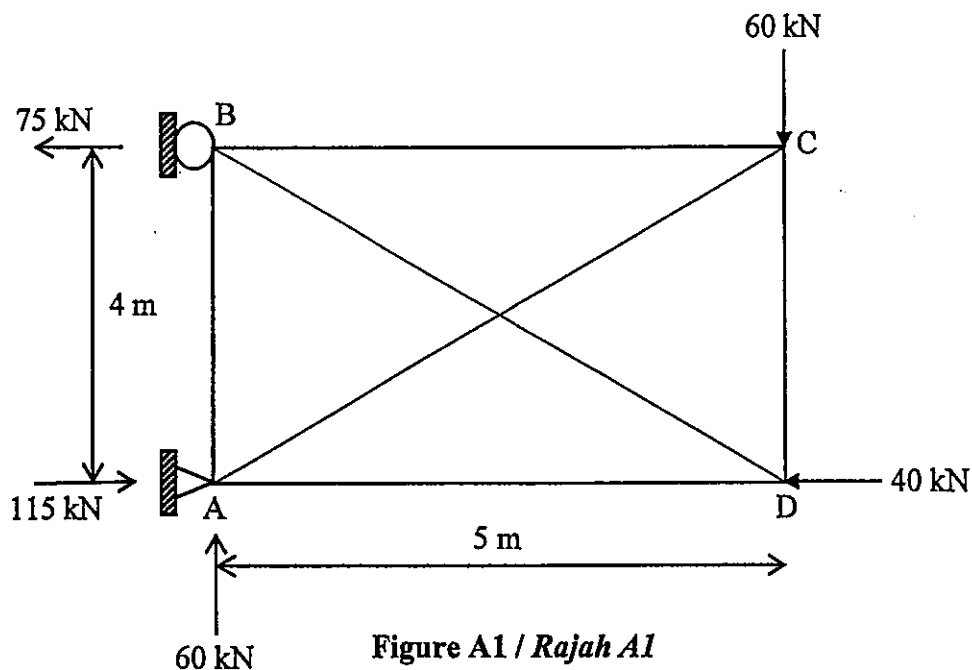

Figure A1 / Rajah A1
A statically indeterminate truss is subjected to an external load as shown in Figure A1. Given the cross sectional area, A and the modulus of elasticity, E are constant for each member of the truss.
- (a) Show that the trusses in Figure A1 is statically indeterminate structure.